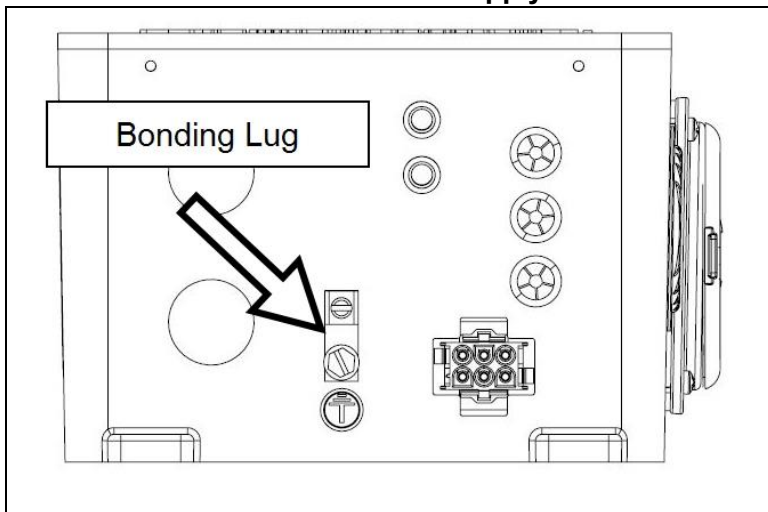

Figure 10
- Use the lug located on the bottom of the power supply with #8 sold bond wire to the pool equipment. See **Figure 10**.